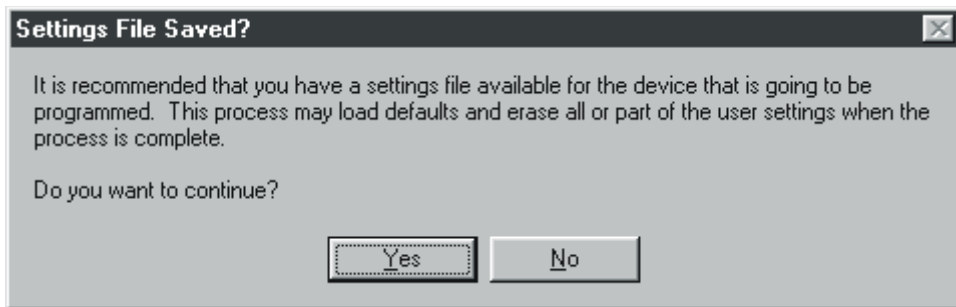

Figure 5-24. Settings File Reminder Dialog Box
5. Click the **Start Transfer Data** button to proceed with software uploading. The dialog box of Figure 5-24 appears and recommends that your DECS-100 settings be saved in a file that can be uploaded to the DECS-100 after the embedded firmware is updated.